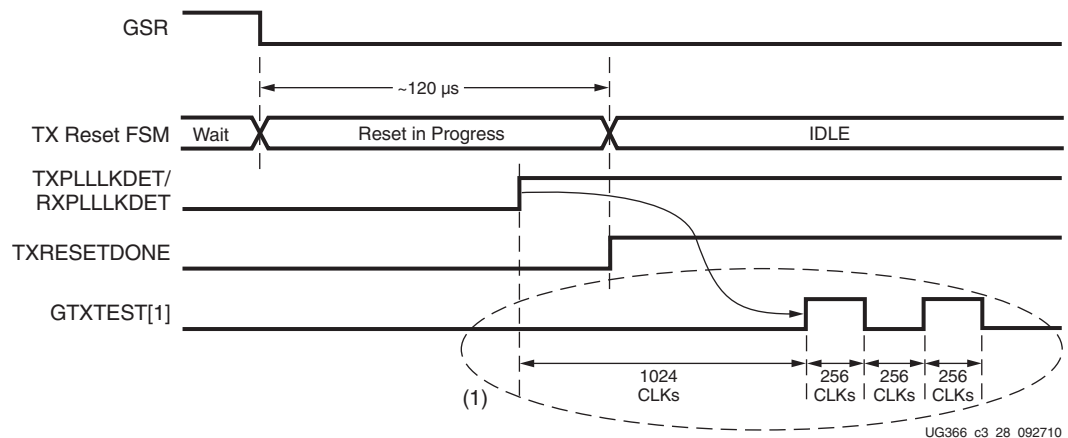
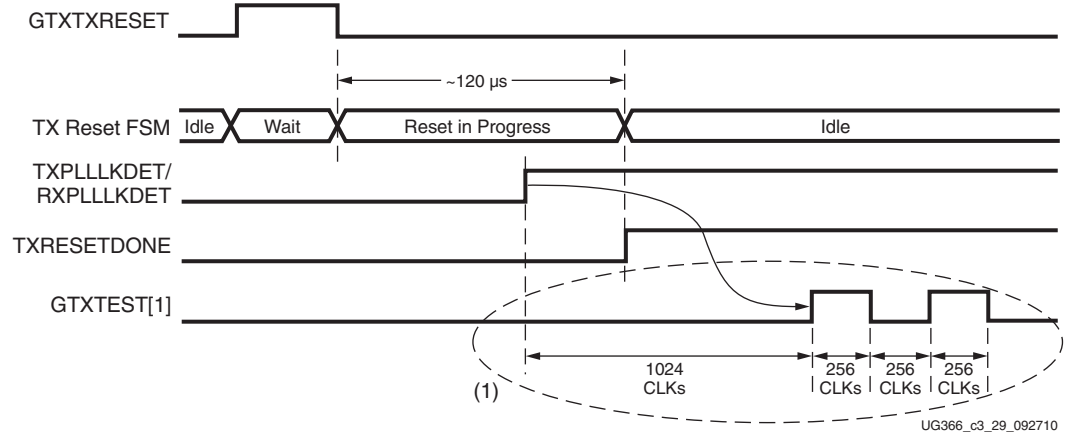

Figure 3-10: Transmitter Reset After Completion of Configuration
Figure 3-11: Transmitter Reset After GTXTXRESET Pulse
Figure 3-10 shows the GTX transceiver TX reset following the completion of configuration of a powered-up GTX transceiver. The same sequence is activated any time TXPLLPOWERDOWN goes from High to Low during normal operation.
Notes relevant to Figure 3-10:
2. The timing of the reset sequencer inside the GTX transceiver TX depends on the frequency of an internal clock and certain configuration attributes. The estimate given in Figure 3-10 assumes that the frequency of the internal clock is 50 MHz with default values for the configuration attributes.
Figure 3-11, similar to Figure 3-10, shows the reset occurring in response to a pulse on GTXTXRESET. GTXTXRESET acts as an asynchronous reset signal. The guideline for the asynchronous GTXTXRESET pulse width is one period of the reference clock.
Notes relevant to Figure 3-11:
2. The timing of the reset sequencer inside the GTX transceiver TX depends on the frequency of an internal clock and certain configuration attributes. The estimate given in Figure 3-11 assumes that the frequency of the internal clock is 50 MHz with default values for the configuration attributes.